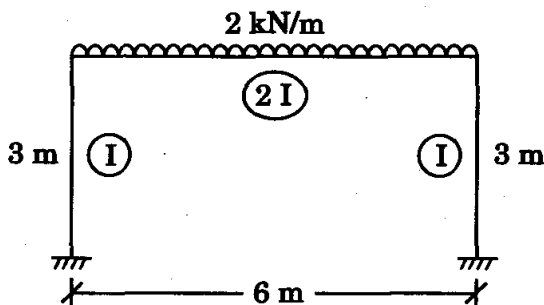

Figure 2
4. Using moment distribution method, analyse the portal frame shown in Figure 2 and draw the bending moment diagram. The moments of inertia are shown within circles. 14